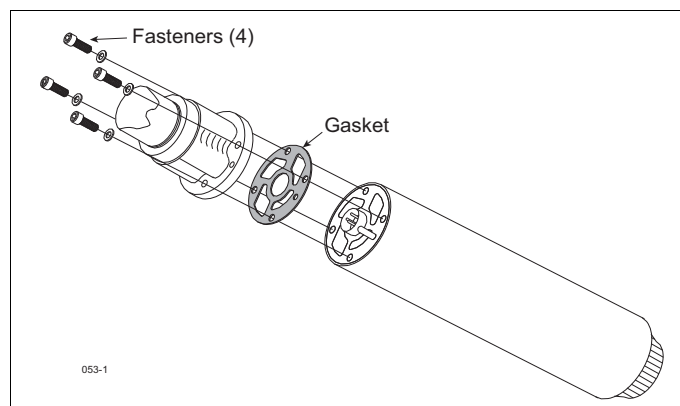

Figure 3. UMP Bolts And Gasket
6. Remove the old UMP by removing the four bolts holding the discharge head as shown in Figure 3. Discard the old gasket and fasteners.